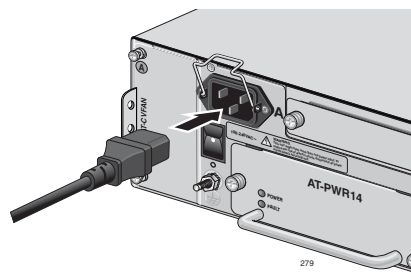

Figure 8. Connecting the AC Power Cord
3. Plug the power cord into the AC power connector on the back of the chassis, as shown in Figure 8.